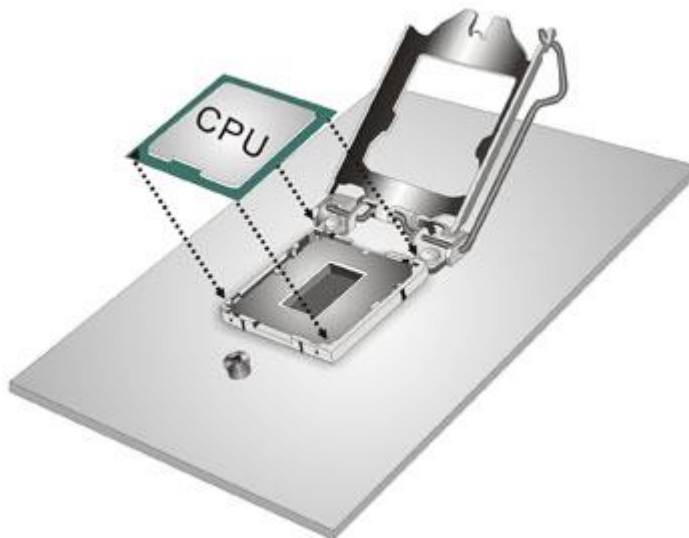

Figure 4-5: Insert The Socket LGA1851 CPU
Step 11: Insert the CPU. Gently insert the CPU into the socket. If the CPU pins are properly aligned, the CPU should slide into the CPU socket smoothly. See **Figure 4-5.**